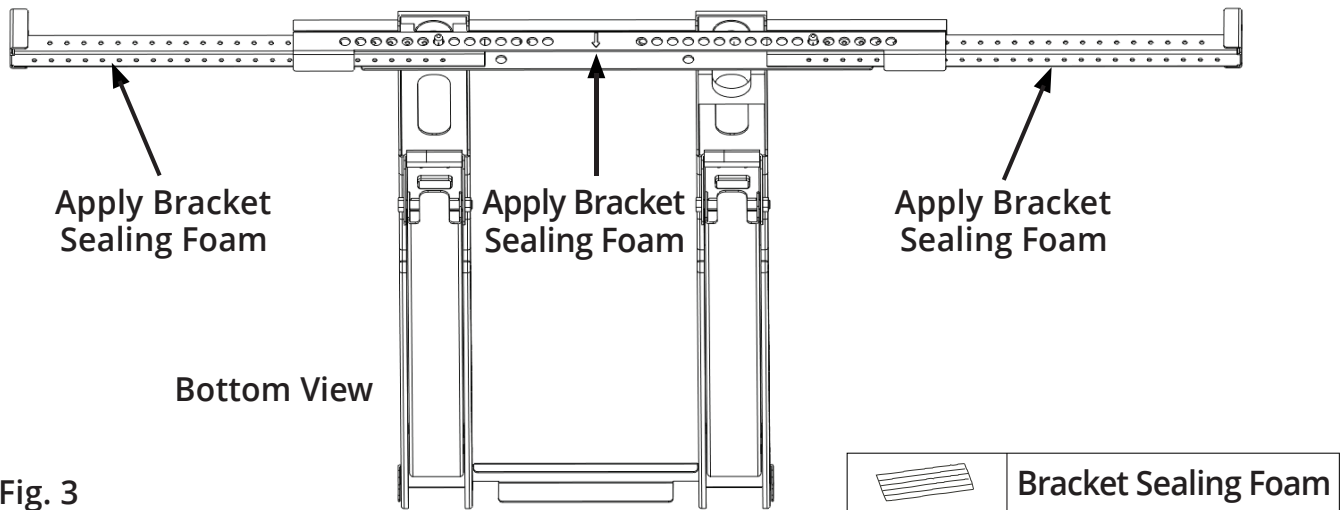

Fig. 3
D. Now, you will apply the supplied **Bracket Sealing Foam** strips to the bottom of the bracket as depicted in **Fig. 3**.